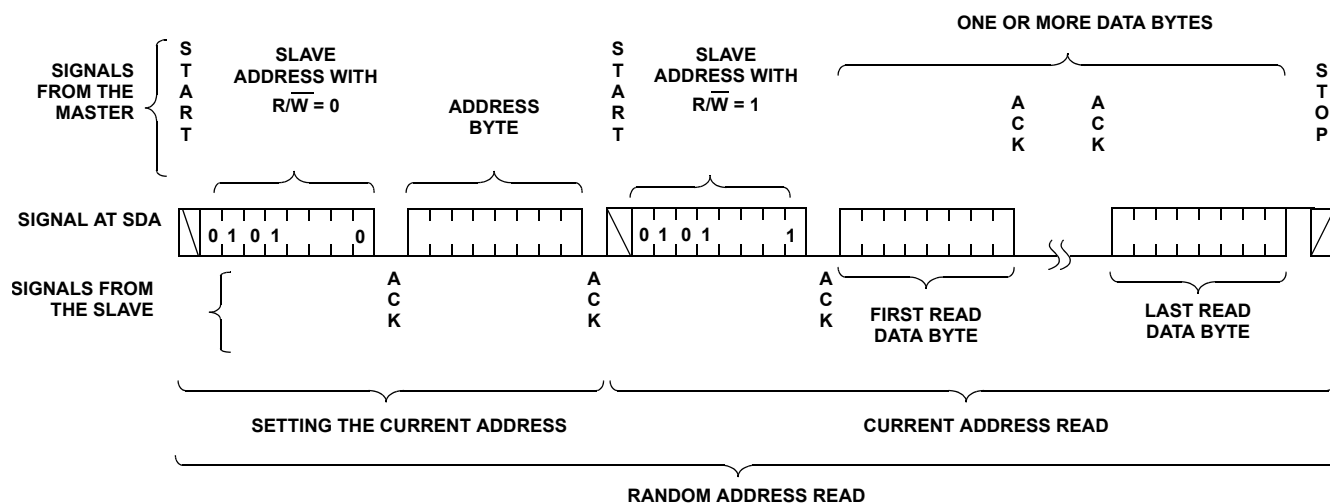

FIGURE 9. MOVE/READ SEQUENCE
14. Access the desired DR or WCR using a new write or read command (see Figure 7 for write and Figure 9 for read.)
The Move/Read operation simultaneously reads the contents of a Data Register (DR) and moves the contents into the corresponding DCP's WCR and the WCRs of all DCPs are updated with the content of their corresponding DR. Move/Read operation consists of a one byte, or three byte instruction followed by one or more Data Bytes (see Figure 9). To read an arbitrary byte, the master initiates the operation issuing the following sequence: a START, the Slave Address byte with the R/W bit set to "0", an Address Byte, a second START, and a second Slave Address byte with the R/W bit set to "1". After each of the three bytes, the X9252 responds with an ACK. Then the X9252 transmits Data Bytes